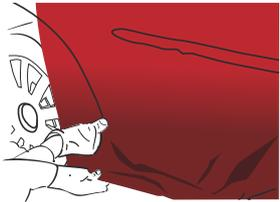

Figure 12
- › Apply the raised parts with a finger or a felt-covered plastic squeegee. (FIG. 12)